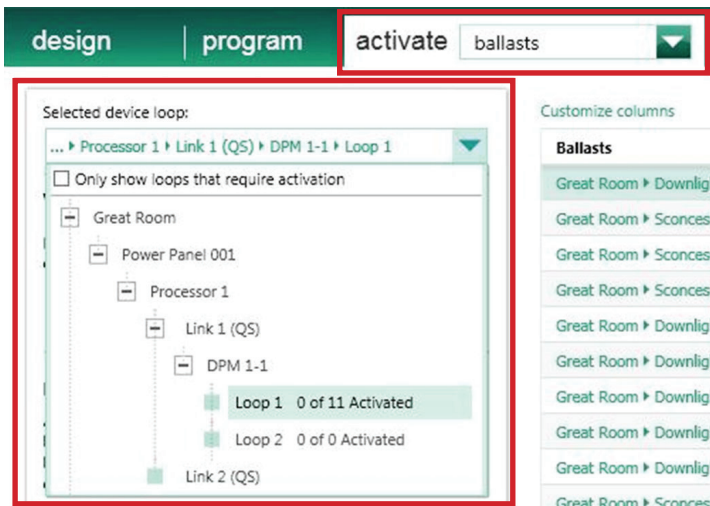

Figure 7
1. Navigate to the “Activate > Drivers” screen and select the DALI® loop of drivers to be activated from the “Selected device loop” drop-down menu. See Figure 7 below.